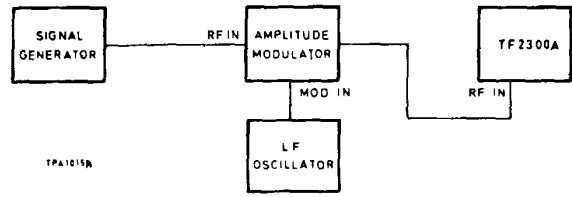

Fig. 4-7. A.M. rejection measurement
- (1) Set up the equipment as shown in Fig. 4-7. Adjust the signal generator to give a c. w. output of 100 mV at any convenient frequency. Adjust the l. f. oscillator frequency to 1 kHz at a level which gives 80% modulation as measured on the TF 2300A.
- (2) On the TF 2300A set the Function switch to TUNE and the OSCILLATOR TUNE control to give maximum meter reading. Then adjust the LEVEL control for a reading within the 3 dB arc.